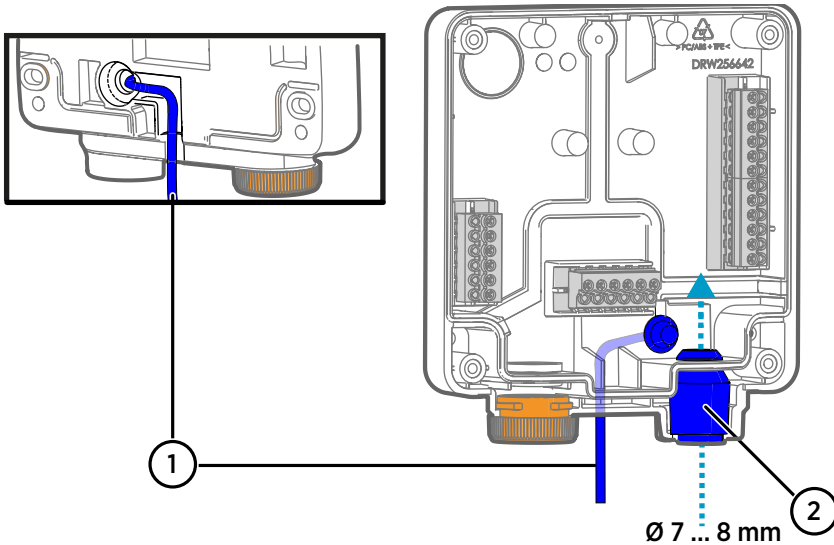

Figure 4 Indigo200 wiring options
- c. Nest the cable inside the groove on the back of the transmitter as shown in Figure 4 \(page 10\), and attach strain relief as needed.